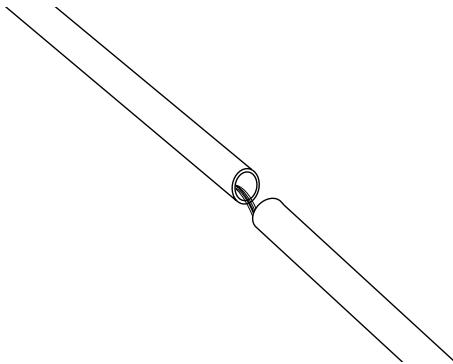

Figure 7
- e) Snap the tube at the scored area (Figure 7). Pull off the severed tube. **USE CARE TO AVOID DAMAGING THE FIBERS.**